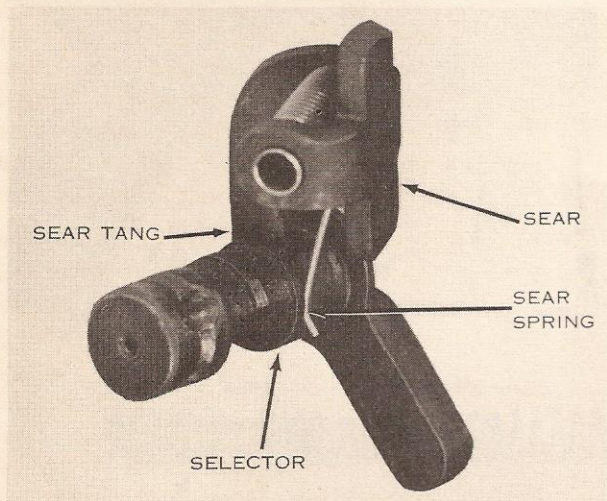

Figure 26. Position of sear tang and sear spring on the selector lever.
d. Turn the selector to the automatic position. Insert the automatic sear into its position in the receiver. Insure that the sear tang is positioned in the slot on the left rear side of the selector lever and the long end of the sear spring is in the groove on the left front of the selector lever (fig. 26). This insures that the automatic sear returns to the proper position when the selector lever is turned from SEMI to AUTO. Insert the sear pin into its hole in the receiver from *right to left*.